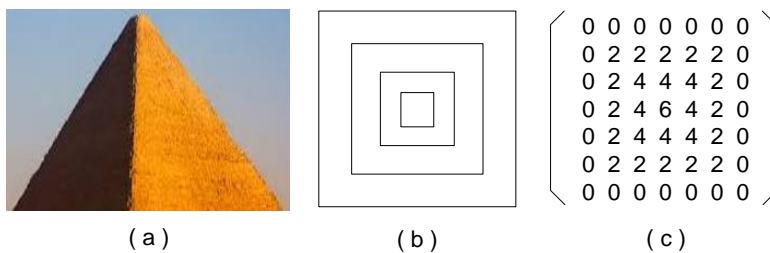

Figure 2: (a) Pyramid\* (b) Top View (c) H matrix
For simplicity, we assume the mountain has no caves and can be described by a 2D matrix of surface points,  $H$ . For each  $x$ - $y$  coordinate location, the related surface height,  $H(x,y)$ , is given in the matrix. A simple example of such representation is shown in Figure 2, where a pyramid on a 7meter-by-7meter area with the peak of 6 meters is represented by a 7x7 matrix.
- The first line displays the mountain contour on the current flight path which is represented by the related row or column in H matrix (for example, a row [0 2 4 4 4 2 0] in Figure 2(c) can serve as a path and displayed in the first line)